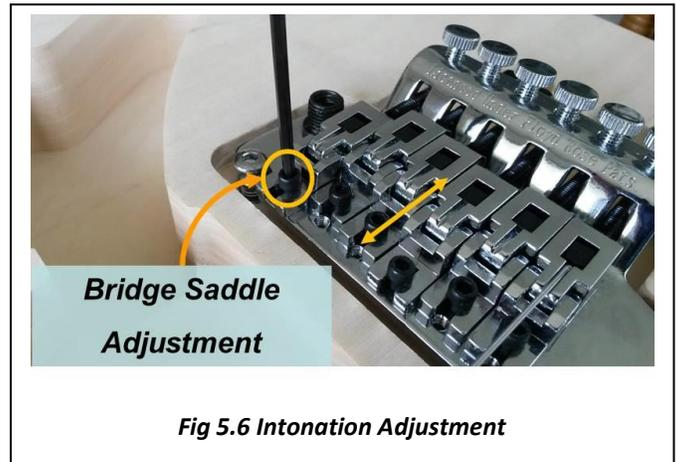

Fig 5.6 Intonation Adjustment
5.6 Intonation (Figure 5.6)
- b. Then using the Tuner, remove the tension on the Bridge saddle. Loosen the saddle bolt with the supplied 2.5mm Allen wrench (Fig 5.6). Adjust the saddle position in or out as determined in step 4. (Additional movement can be achieved by using the 2nd hole in the bridge to lock down the saddle).